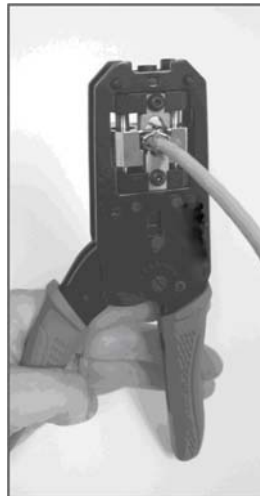

Fig.3.
- ❑ Insert the plug assembly in the tool as shown (Fig.3). Clicking sound of the plugs' locking tab is the end of inserting process.